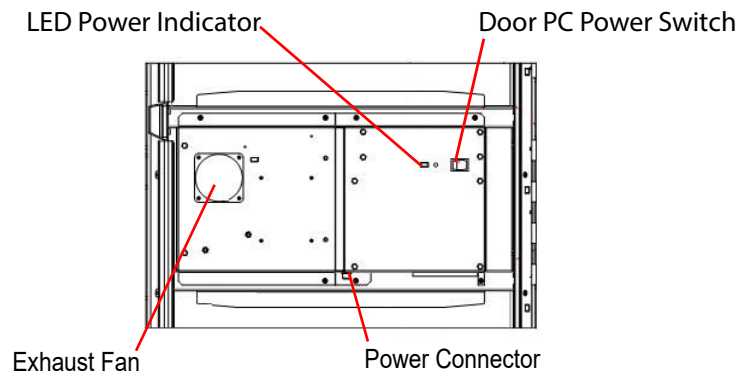

Figure 20 Door PC Rear View
2. Inside the back of the door is the power switch for the Door PC (see Figure 20).
1. Alternatively open the door and press and release the Door PC power switch (see Figure 20). The power switch does not latch in place.